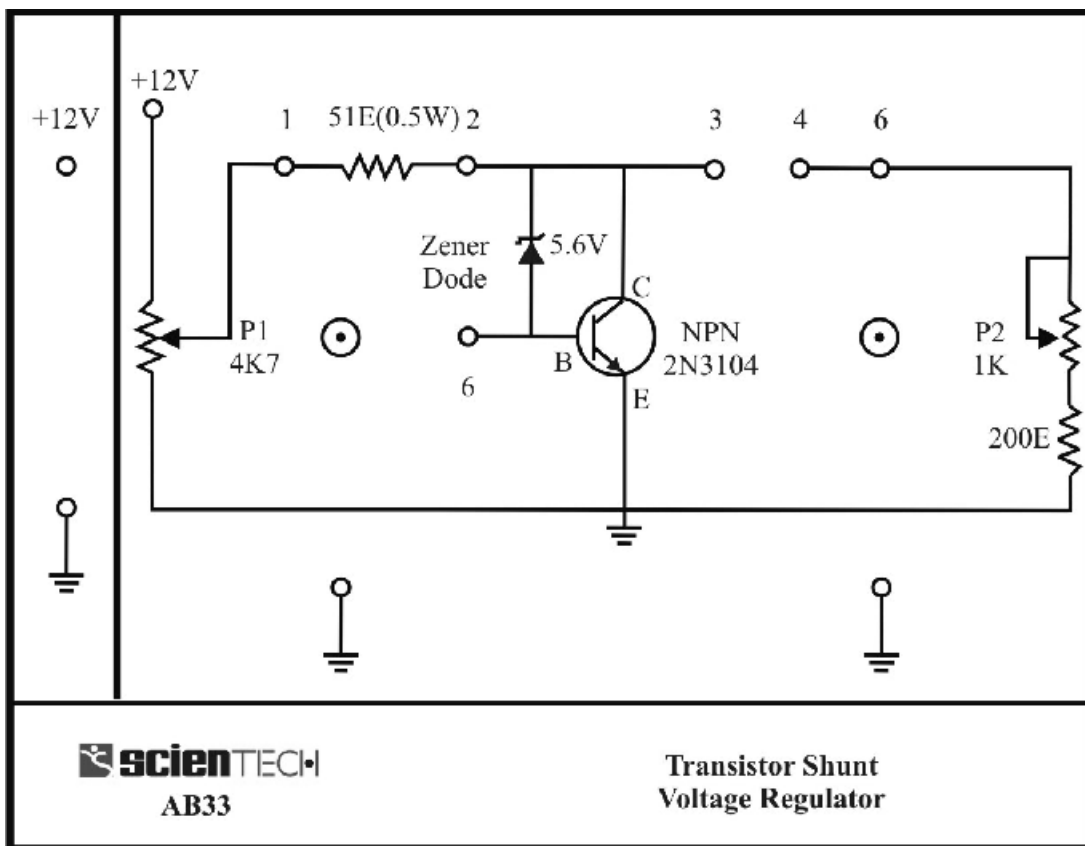

Figure 5
Circuit used to study Transistor shunt voltage regulator is shown in figure 5.
1. The result of Experiment 2 reveal that for the network of Figure 5 with a fixed Load resistance, the output voltage will remain close to 6.3V for a range of input voltage V_{in} that extends from _____ to _____ .